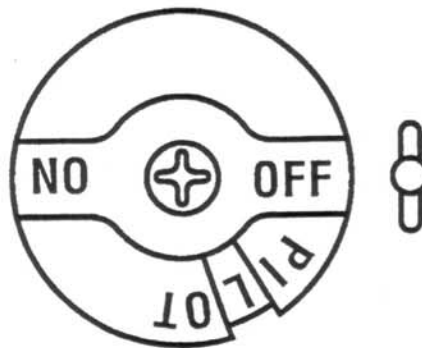

Fig. 14
2. Turn the Unitrol knob counterclockwise, past the Pilot position, to the Off position. See Fig. 14. The pilot flame will go out.